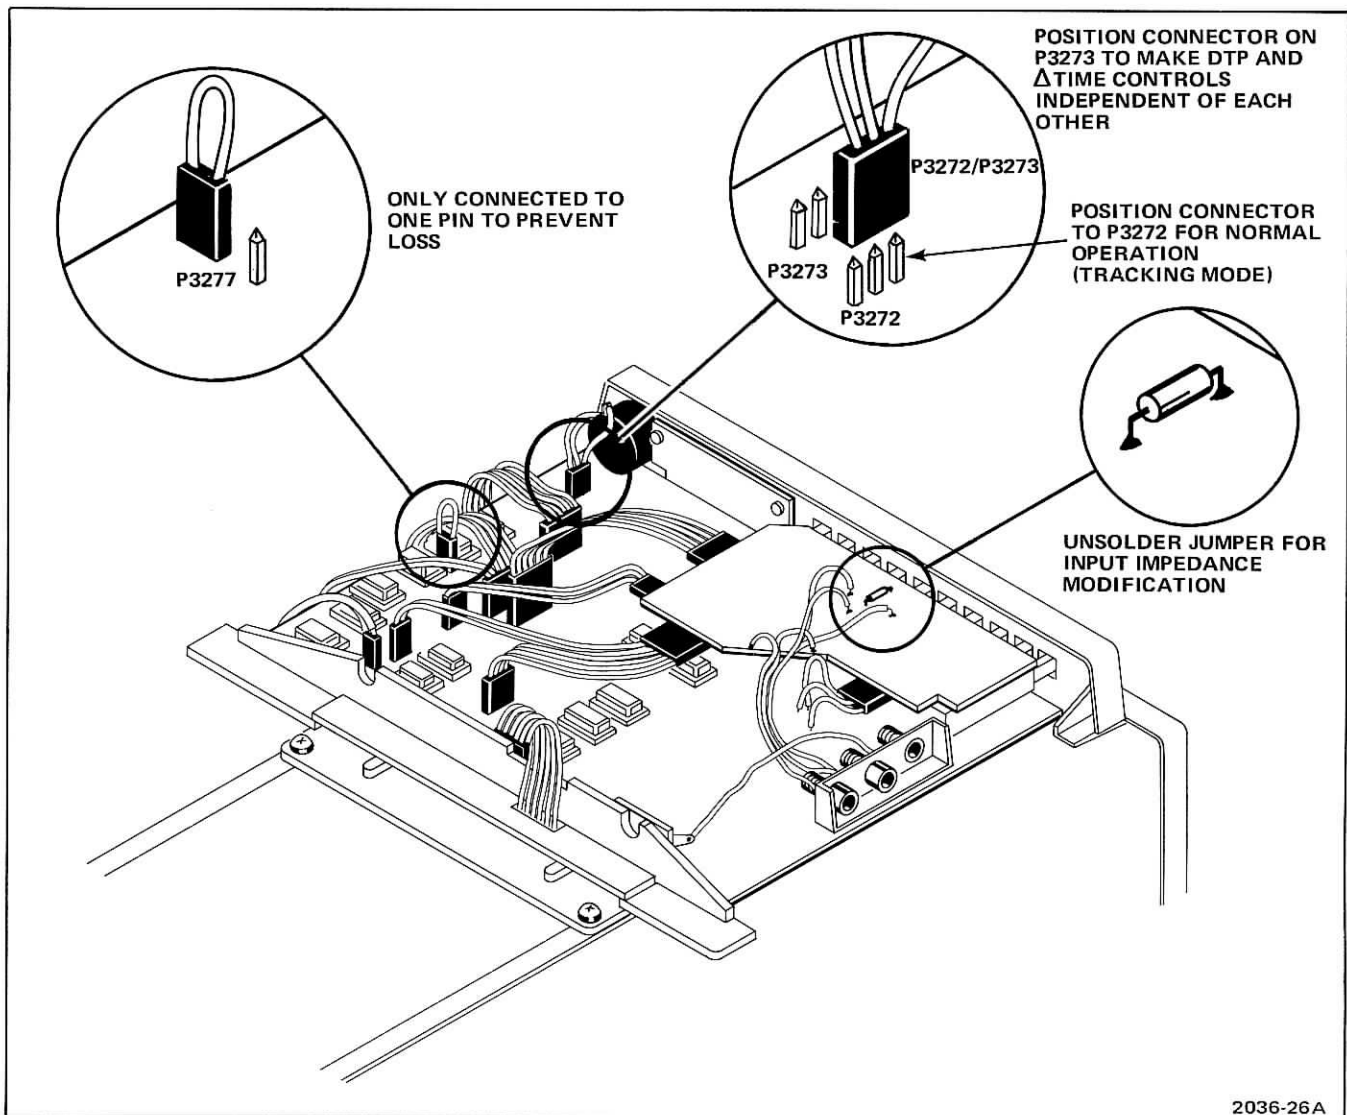

Fig. 5-2. User modification.
2. Unsolder and remove the wire strap as shown in Figure 5-2.
2. Disconnect the connector from P3272 and connect it to P3273 (see Figure 5-2).